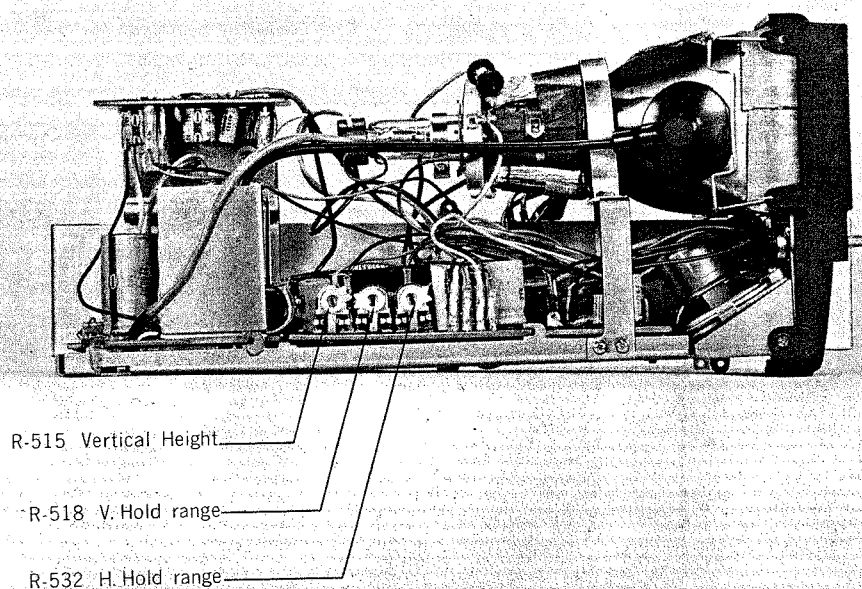

Fig. 3-2
- (b) Adjust R-518 (5K-VR). Fix at position at which picture is stationary (Ref. fig. 3-2).
- (b) Adjust R-532 (5K-VR). Fix at point at which the picture synchronizes into one picture. After adjustment has been made, rotate HOR Knob. Confirm that the horizontal synchronization is stable at all points within the rotatable range of the HOR Knob. (See fig. 3-2).